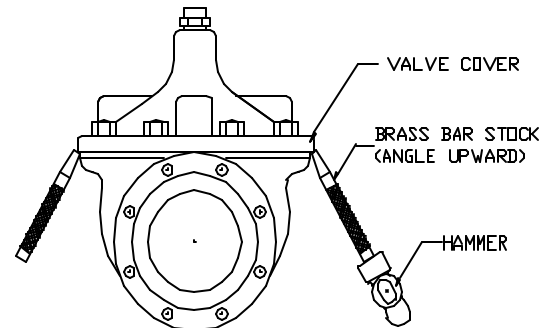

Figure 4
3. Remove the cover. If cover is not free to be removed, loosen it by tapping upward along its outside edge with a dull cold chisel (Figure 4). Another method is to carefully admit upstream pressure to the valve by partially opening the upstream isolation valve, allowing water pressure to push the cover upward. Leave at least 4 opposing cover nuts in place approximately 3 to 4 threads above the cover. **Extreme caution should be taken when using this method.**